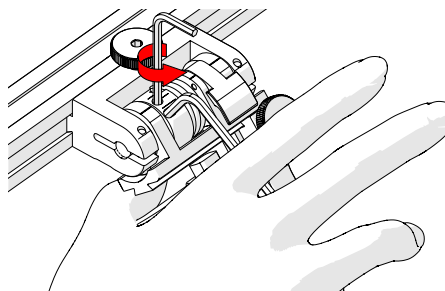

Fig. 76 - Press 3 mm hex wrench down
5. Lightly press the long arm of the 3 mm hex wrench down. Using the 2 mm hex wrench, loosen the force adjustment screw but do not remove it (Fig. 76).